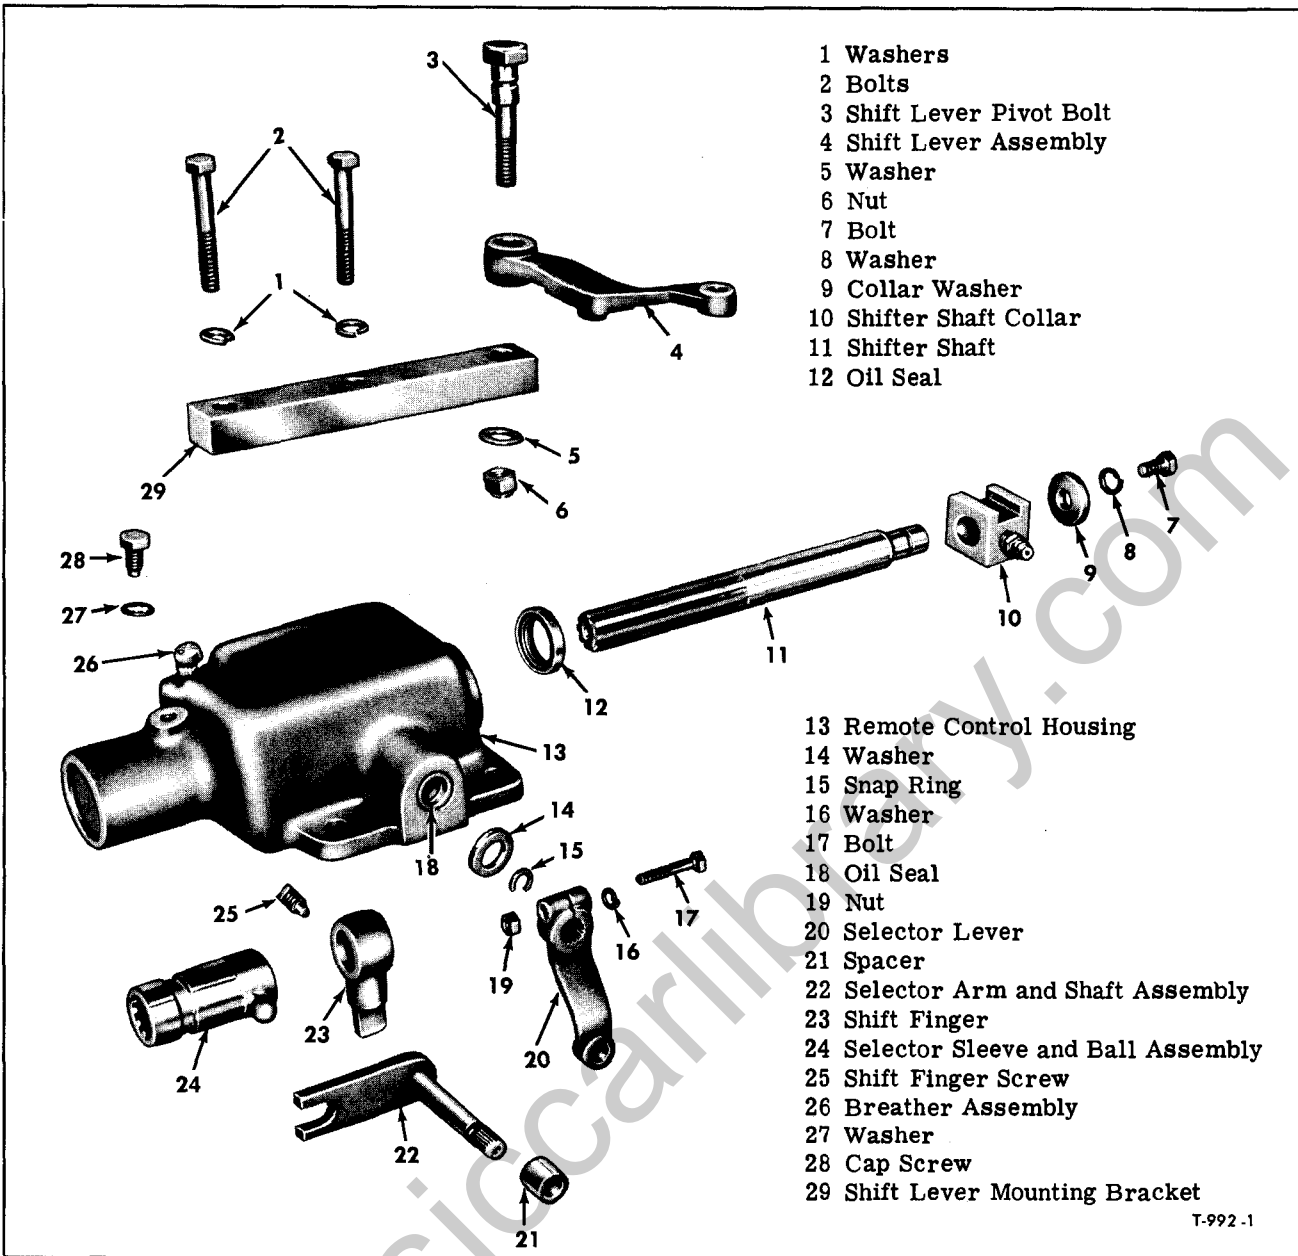

Figure 8—Clark 387V Remote Control Assembly
NOTE: Key numbers in text refer to figure 8.
1. Press or pry oil seals (12 and 18, fig. 8) out of remote control housing.